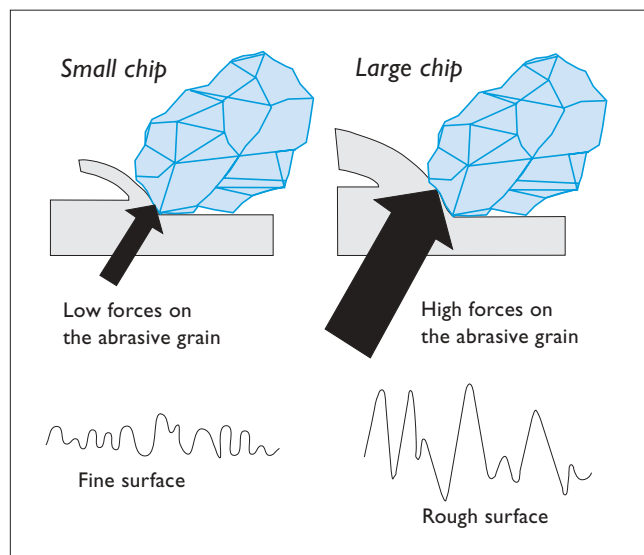

Figure 3. A large chip size results in a rougher surface finish on the workpiece.
- The surface of the part being ground is coarser, see Figure 3.